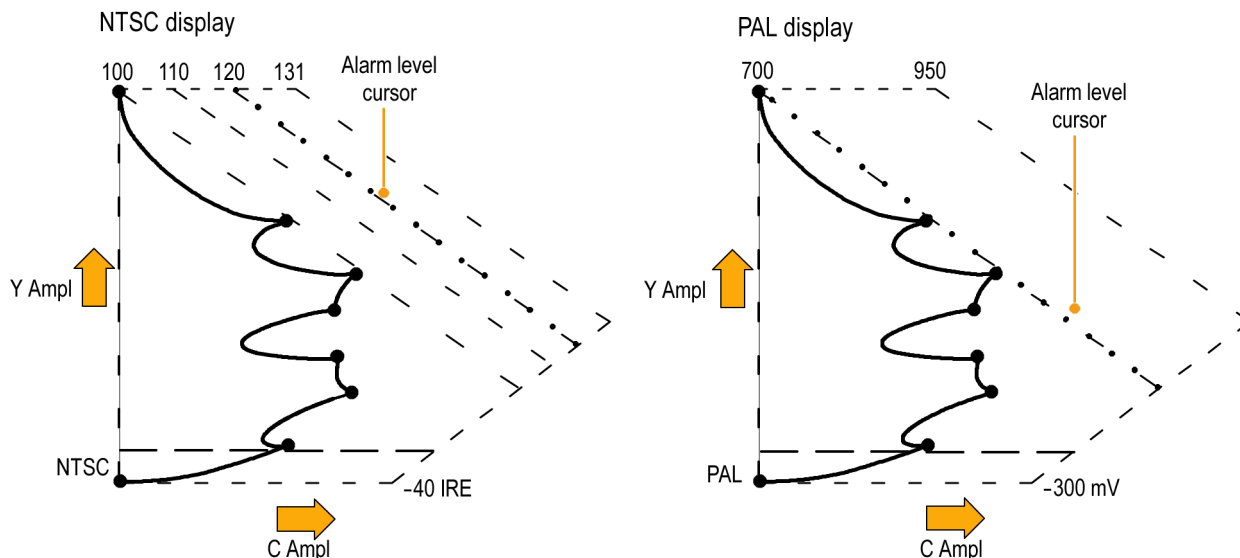

Figure 48: Arrowhead gamut display plots
The Arrowhead gamut display plots luminance (Y) against chrominance (C) to check if the composite signal adheres to standard gamut. NTSC and PAL Arrowhead displays (75% Color bars) and indicates the values of the graticule lines. The arrowhead shape of the graticule results from overlaying the standard limits for luminance and luminance-plus-peak chrominance. (See Figure 48.)